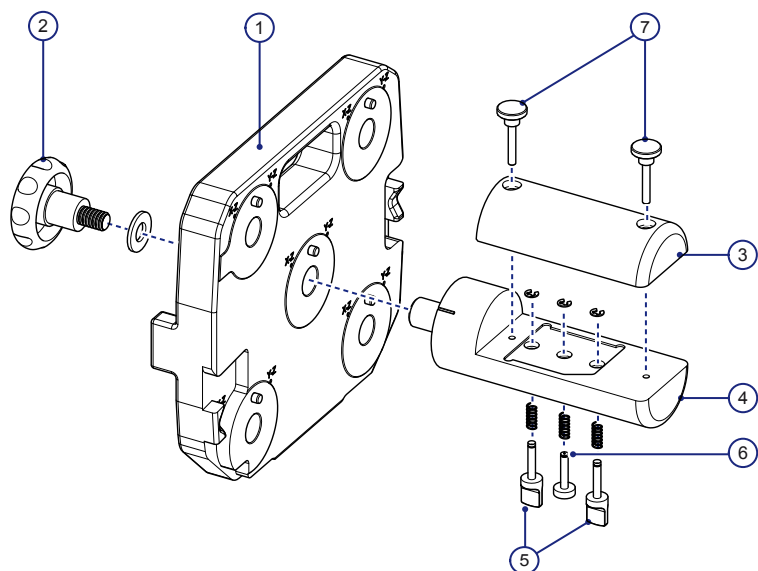

Figure 1.23 Exploded view of the Film Holder Tool
- 3 Put the Film Holder Tool housing (4) in X-Z position in the base plate (1) and tighten the knob (2), see Figure 1.23.